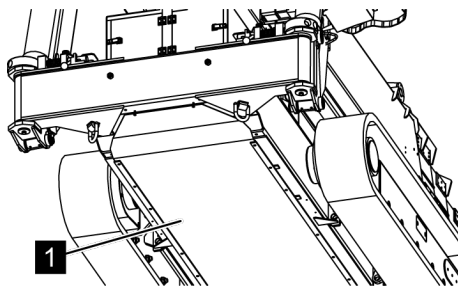

Fig. 144: Loosening the bottom plate
3. → Unscrew the bottom plate (Fig. 144/1).